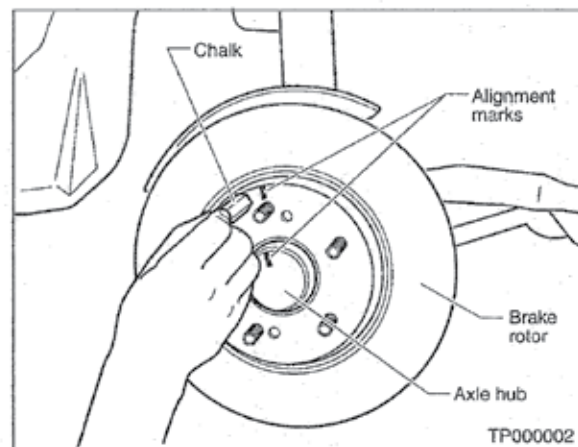

Figure 6
- If the rotor must be removed for any reason, mark the exact location (rotor to axle hub) before removing the rotor (see Figure 6 on page 6). This will make sure you reinstall the rotor back to the same location.
3. Place a reference mark on the rotor and hub (see Figure 6).